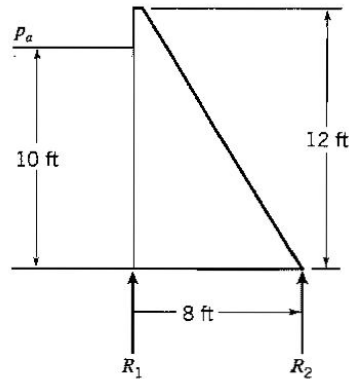

Figure P2.22
2.22 Given that the specific gravity of concrete is 2.4 , find the vertical reactions R_1 and R_2 per unit width of the concrete dam shown in Figure P2.22.